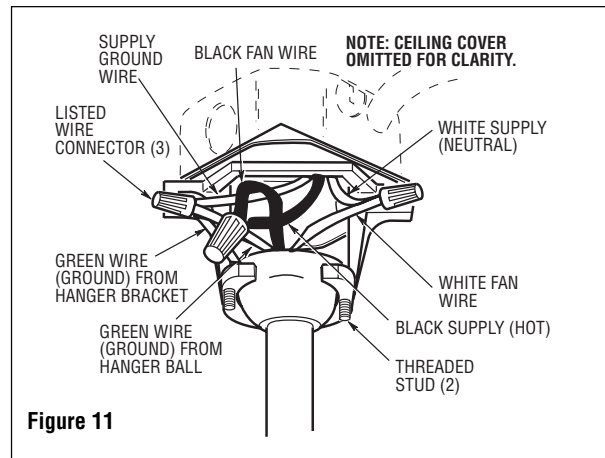

Figure 11
1. Connect the green grounding lead from the hanger ball and the green grounding lead from the hanger bracket to the grounding conductor of supply (this may be a bare wire or wire with green colored insulation). Securely connect wires with wire connectors supplied. (Figure 11.)
2. Securely connect the fan motor white wire to the supply white (neutral) wire using wire connector supplied (Figure 11). Securely connect the fan motor black wire to the supply black (hot) wire using wire connector supplied (Figure 11).